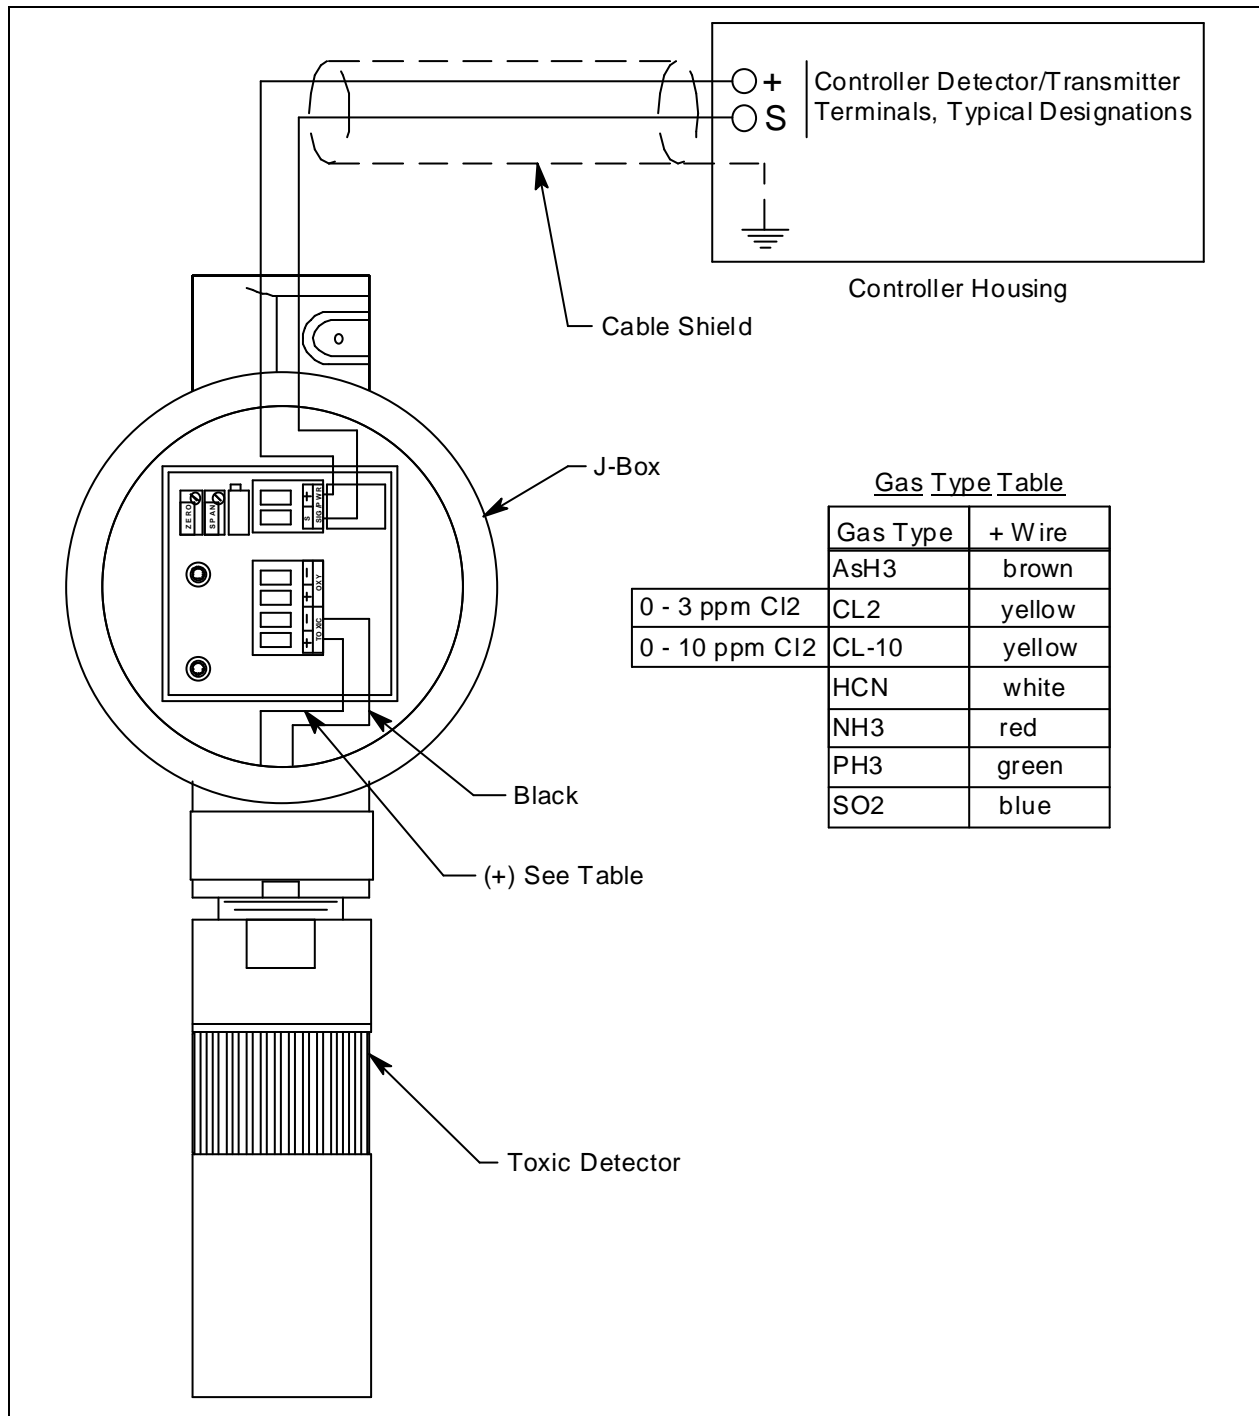

Figure 5: Wiring the Toxic Gas Transmitter to a Controller
The detector housing body protects the electronic components within the housing. Use the mounting threads at the top of the housing to screw the toxic detector into the 3/4 NPT hub on the bottom of the junction box. Two wires extend from the top of the detector housing body. Use these wires to connect the toxic detector to the amplifier. One of the wires is black and one of the wires is color coded depending on the detector type. See Figure 5 on page 12 for the color code assignments.
4. The detector leads are factory wired. Verify that the detector leads are wired to the amplifier's detector terminal strip as shown in Figure 5.
7. Pull out the controller terminal strip, and connect the two wires to the terminal strip as follows (see Figure 5).
11. Connect the wires to the applicable detector/transmitter terminal strip at the controller as shown in Figure 5.
8. Connect the detector leads to the appropriate detector terminal strip terminals. Connect the black wire to the terminal labelled TOXIC - and the color coded wire to the terminal labelled TOXIC +. See Figure 5 on page 12 for the detector wiring connections to the amplifier and the detector wire color coding.
8. Install the detector and controller terminal strips into their sockets on the new amplifier as shown in Figure 5 on page 12. If controller leads or detector leads were removed during this procedure, refer to Figure 5 on page 12 for the detector and amplifier connections.